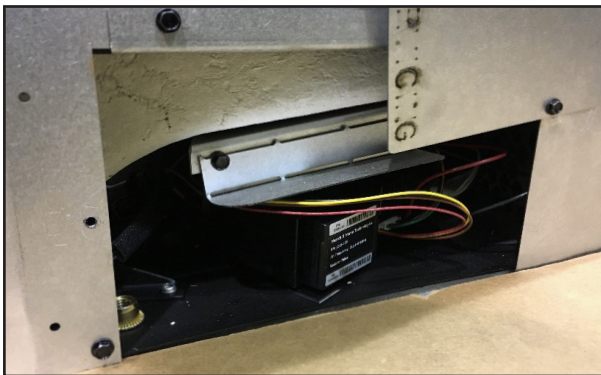

Figure 3.3 Access to Control Cavity
- Access to the control cavity (See Figure 3.3) will require the fireplace to be pulled out from the chimney. This may require the removal of the decorative front and surround.